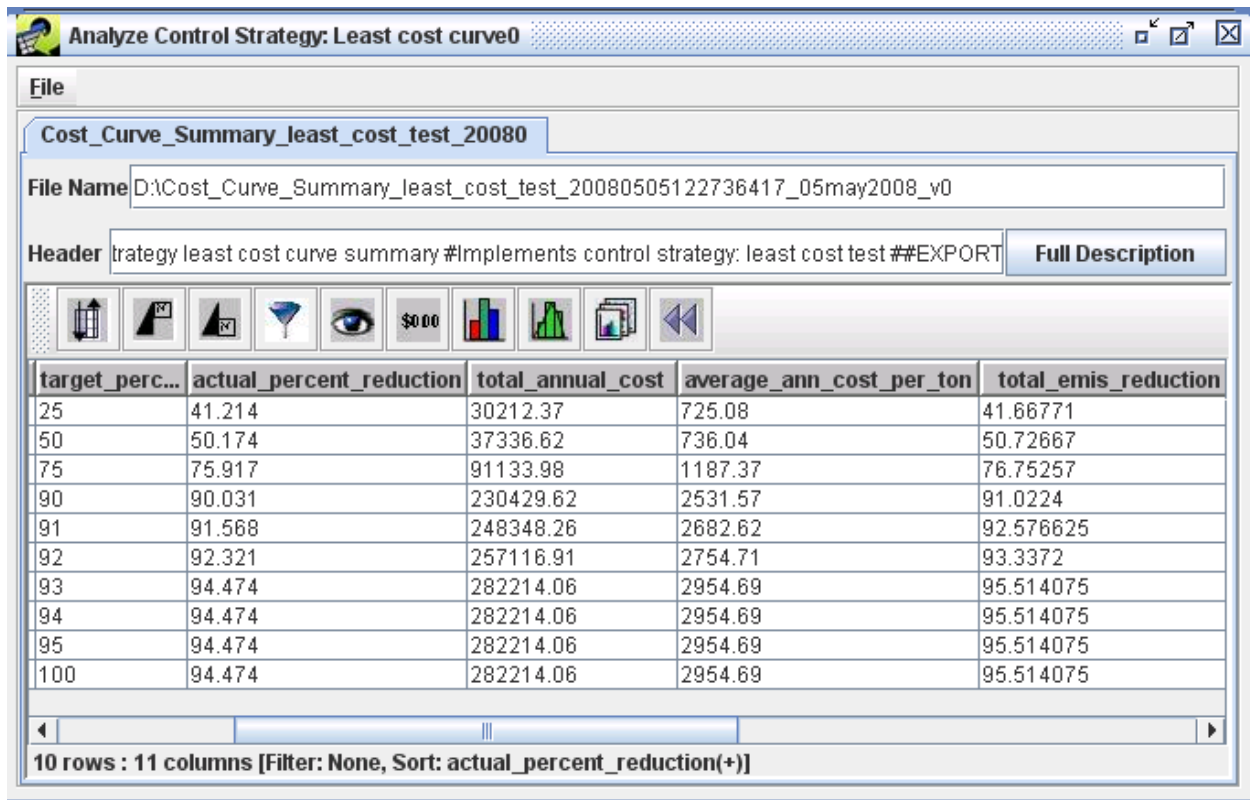

Figure 4.28: Analyzing a Least Cost Curve Output
Step 5-12: Analyze Control Strategy Outputs in CoST. Use the checkboxes to select one or more results files to analyze from the **Output Datasets** table and click **Analyze** to show the **Analyze Control Strategy** window for the selected outputs. An example of a Strategy County Summary analysis is shown in Figure 4.27. The results in this window can be sorted, filtered, plotted, and summarized with statistics. An example of a Least Cost Curve Summary is shown in Figure 4.28. Exit from the **Analyze Control Strategy** window using the X at the top of the window.